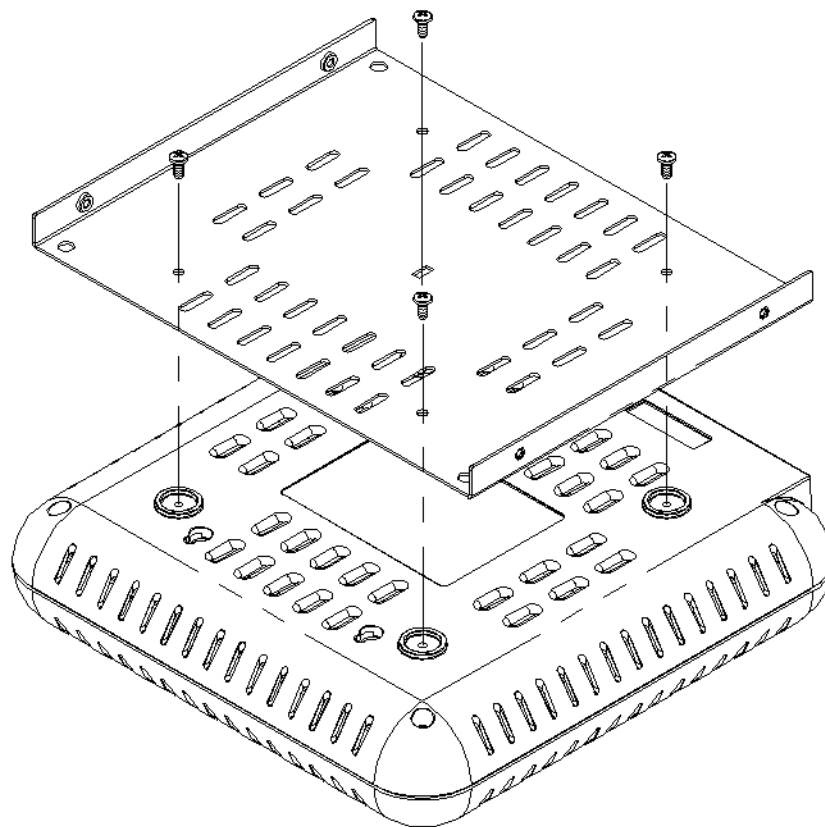

Figure 14: Installing Rear Mounting Plate
3. Fasten the Rear Mounting Plate to the bottom of the BSAP-1700 unit using the 4 #6x5/16" screws provided as shown in Figure 14. Over-tightening of screws, will cause stripping of threads formed in plastic.